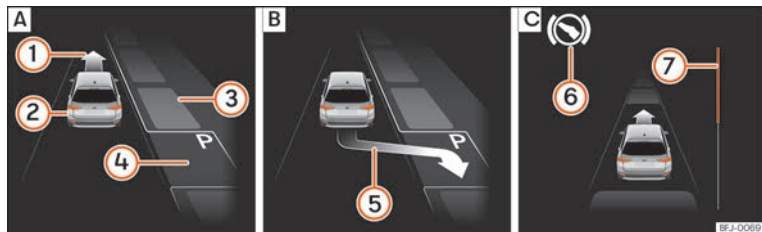
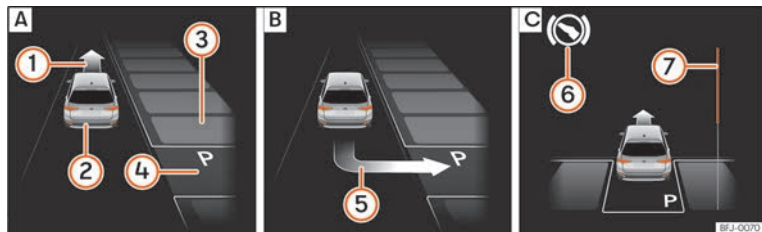

Fig. 282 On the instrument panel display: perpendicular parking. **A** Finding a parking space. **B** Parking position. **C** Manoeuvring.
Fig. 283 On the instrument panel display: parallel parking. **A** Finding a parking space. **B** Parking position. **C** Manoeuvring.
Key to **Fig. 282** and **Fig. 283**:
» **Fig. 282** ⑦ and » **Fig. 283** ⑦ on the screen of the instrument panel displays the relative distance to be covered. The greater the distance, the fuller the progress bar. When driving forward, the content of the progress bar decreases upwards, and when reversing, it decreases downwards.
2.	Look at the display on the instrument panel to see if the space has been detected as "appropriate" and if the correct position for parking has been reached »» Fig. 282 [B] or »» Fig. 283 [B]. The space is considered "appropriate" if the display on the instrument panel shows the message to park [5].
Reverse until the ParkPilot continuous signal is heard. OR: reverse until the instrument panel displays the message to go forwards »» Fig. 282 [C] or »» Fig. 283 [C]. OR: reverse until the instrument panel displays the message Park Assist finished .
9.	The Park Assist system steers the vehicle forward and back until it centres it in the space »» Fig. 282 [C] or »» Fig. 283 [C].